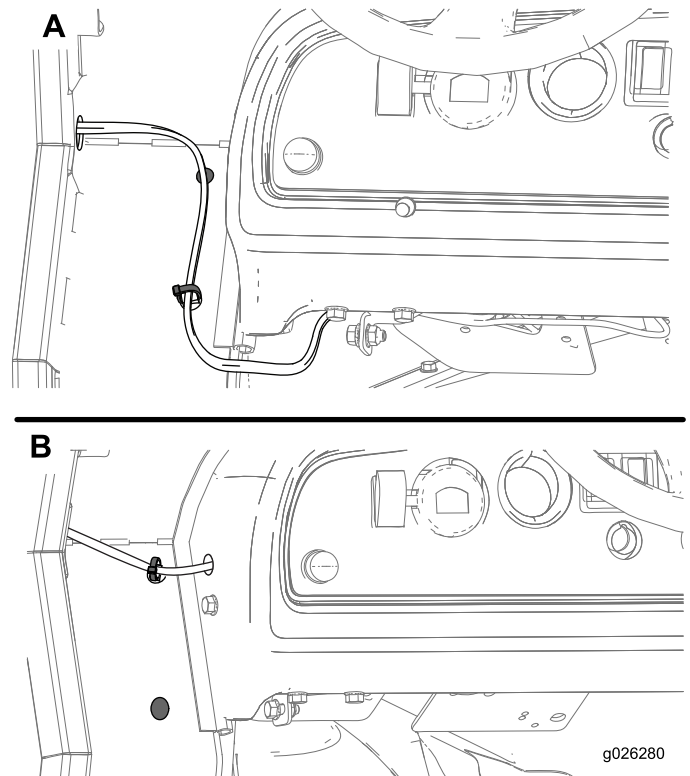

Figure 11
- Route the wire harness under the control panel (Box A of Figure 11). Install the clip tie in the lower hole on the side panel and the plug in the top hole.
- Drill a hole into the console, install the clip tie in the top hole on the side panel, and install the plug into the lower hole (Box B of Figure 11).